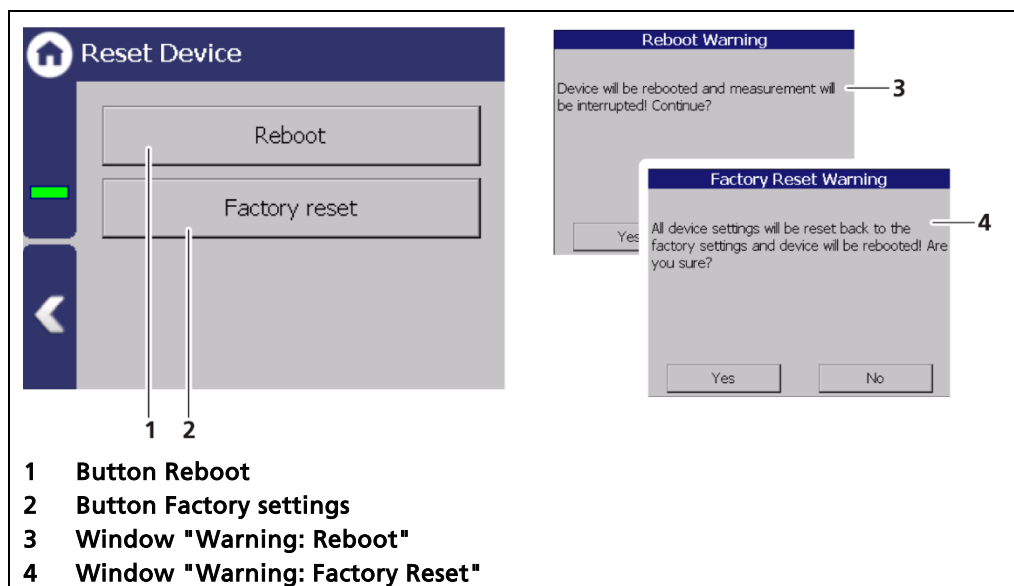

Fig. 53 Reset device
1. To restart the device, click the button <Reboot> (Fig. 53, item 1).
- ▶ A window with a warning "Reboot" (Fig. 53, item 3) opens.
1. To reset the evaluation unit to the factory settings, click the button <Factory settings> (Fig. 53, item 2).
- ▶ A window with the warning "Factory settings" (Fig. 53, item 4) opens.